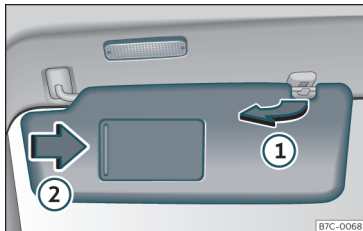

Fig. 122 Sun visor
- The sun visor can be pulled out of its mounting and turned towards the door >>> **Fig. 122** .